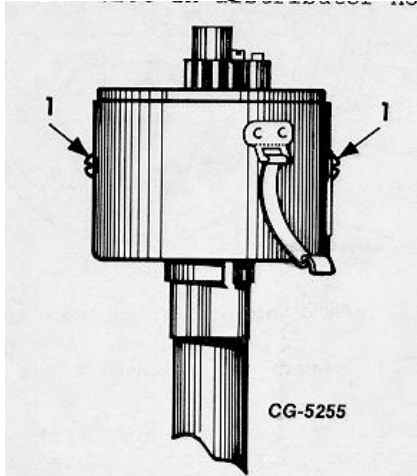

Fig. 14. Distributor Plate Mounting Screw
- a. Remove distributor plate (control unit) mounting screws. (Figure 14).